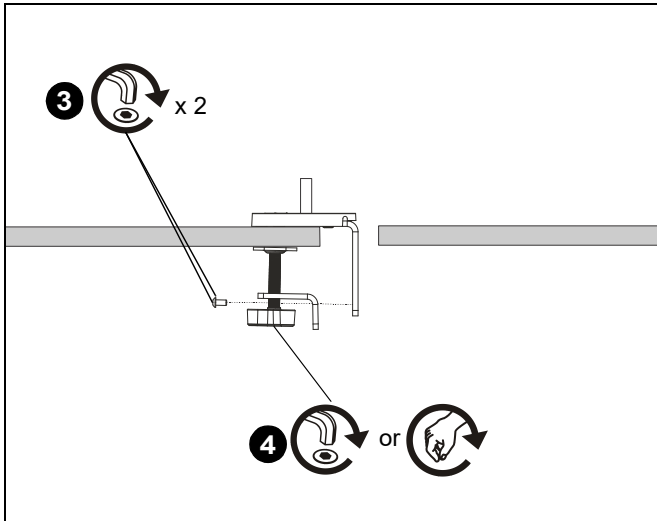

Figure 5
3. Reattach removed piece of clamp and screws to assembly. (See Figure 5)
4. Tighten clamp using clamp screw until mount is securely fastened to desk. (See Figure 5)